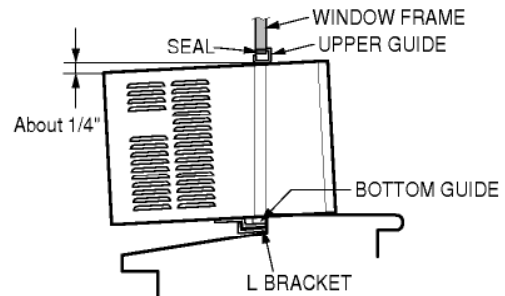

Figure 31
- While steadying the air conditioner, carefully bring the window sash down behind the upper guide of the air conditioner, as shown in Figure 31.